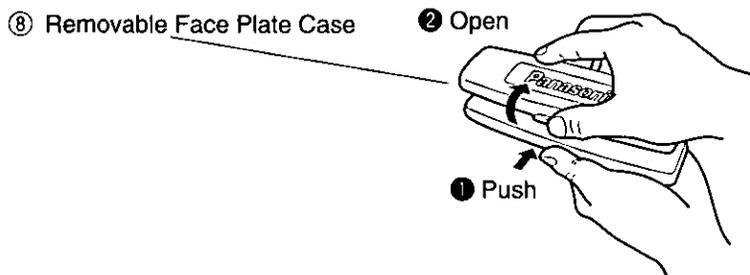

Fig.3
- c) Remove the unit pulling with both hands. (Fig. 3)
④ As shown in Fig.3, gently push the lower side of the case and open its cover. Keep the removable face plate in the case. Then, you can bring the plate safely.